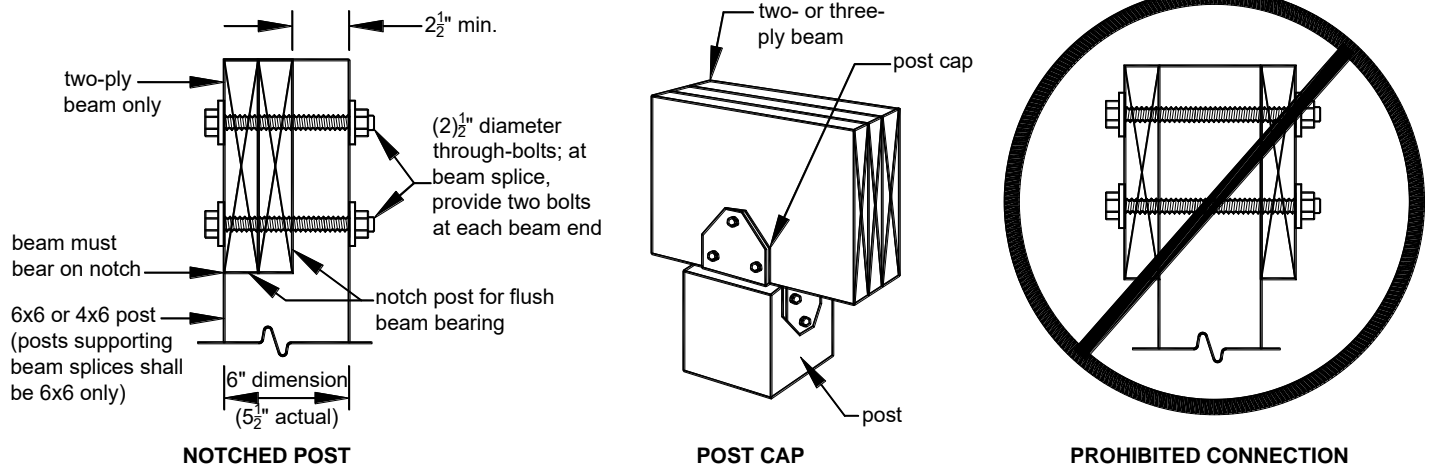

FIGURE 9: POST-TO-BEAM CONNECTIONS
- The beam shall be attached to the post by the appropriate methods shown in FIGURE 9.
- Post caps, as shown in FIGURE 9, shall be specifically designed for two- or three-ply beams and the post size used. Attachment shall be per manufacturer's instructions.